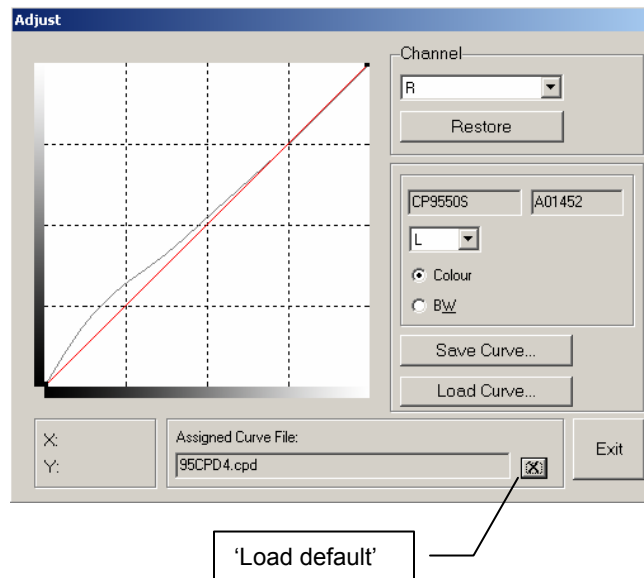

Fig. 2
- 3- Check that the CPD default curve for the CP9550DW is loaded. You can load it by pressing on the 'load default' button, as noted in the illustration on Fig. 2. Use the gray curve as a guide if needed to make small adjustments, in order not to be so far from current standard CPD adjustment for that printer.